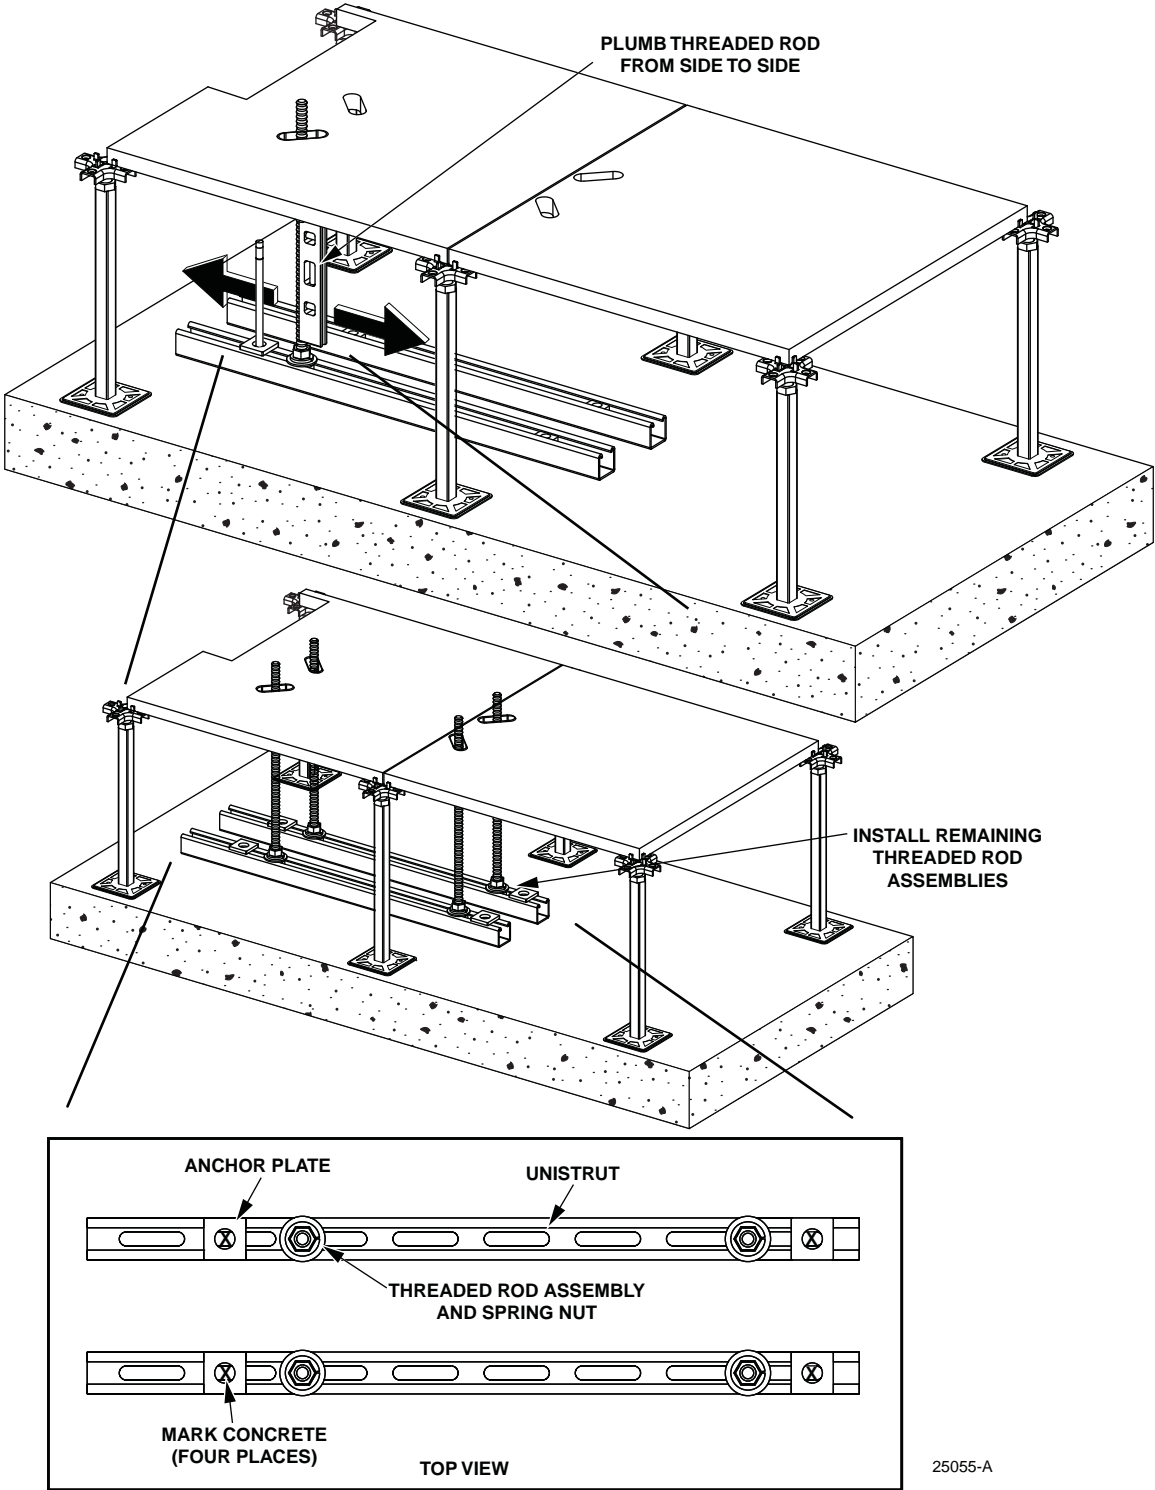

Figure 13. Installing Threaded Rod Assemblies
12. Plumb the threaded rod assembly and mark anchor plate location on concrete. Install three remaining threaded rod assemblies in the same manner. See Figure 13.